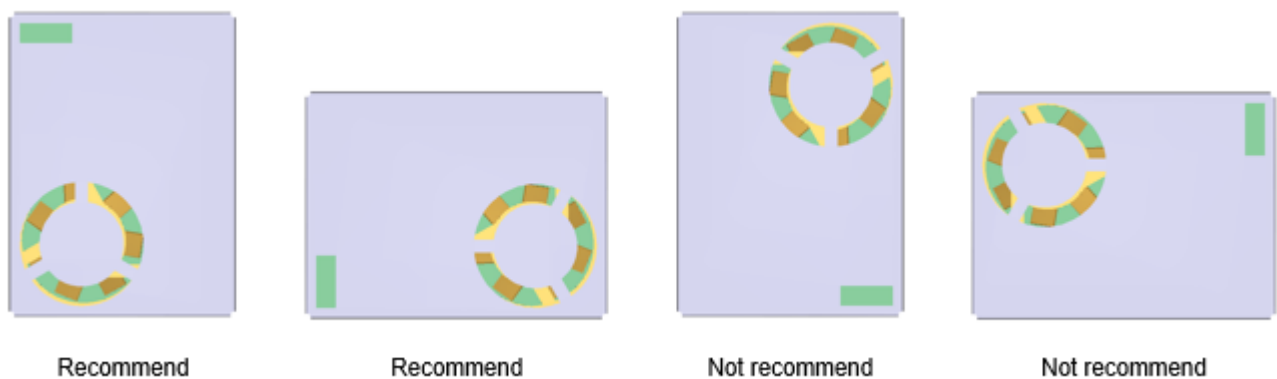

Fig. 14. 設置方法 (The installation method)
- Install the sensor so that the air inlet/outlet surface faces horizontally. The recommended installation direction is shown in Fig. 14 below.